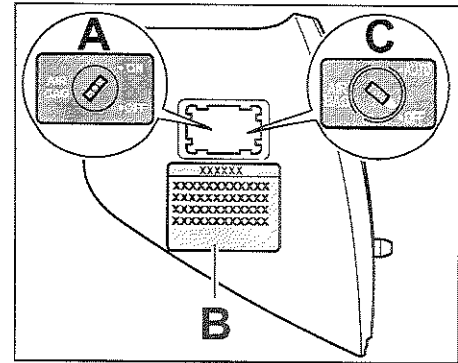

Figure 16
- 6.2.6 Clip key-operated switch "Airbag Auto/OFF, USA version" ⇒ Figure 16 -C- into side trim panel ⇒ Figure 2 -C-.
- 6.2.7 Stick warning sticker ⇒ Figure 16 -B- onto the side trim panel.